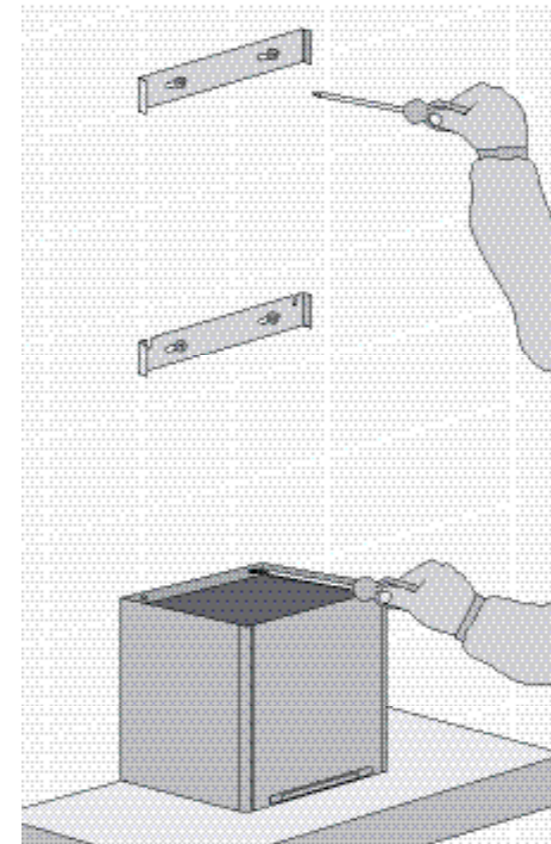

Fig. 7
- Install flue cover wall mounting brackets with suitable fixings. Install suitable screws for rangehood mounting points (to support a total weight of 30kg) to the wall as marked (Fig. 7).